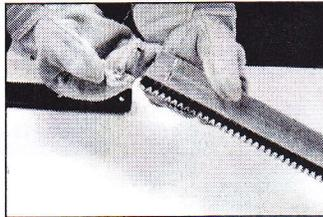

Fig 3
4. From the underside, insert 2 of the short bolts (D) in the 2 outside holes, up through the bar. Place loc nuts (E) on the bolts and finger tighten (figure 3).